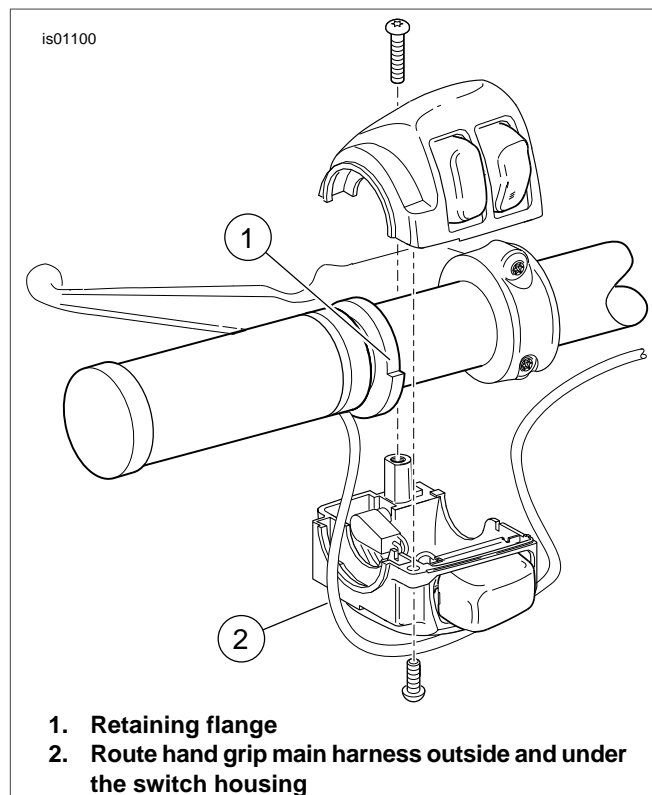

Figure 1. Heated Hand Grip (Left Side)
9. See Figure 1. Position the left side grip on the handlebar so the retaining flange (1) can be securely installed into the lower switch housing (2).